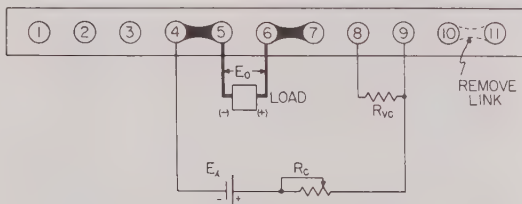

FIG. 3-9 CONNECTIONS FOR VOLTAGE PROGRAMMING
- 3.35 Procedure (Refer to Fig. 3-9)
- Connect components as shown in Fig. 3-9, disconnect link between terminals (10) and (11) on the barrier strip.
With the calculated components connected as shown in Fig. 3-9, the output voltage  $E_o$  varies from 0 to 30V DC as  $E_i$  varies from 0 to 10 volts.